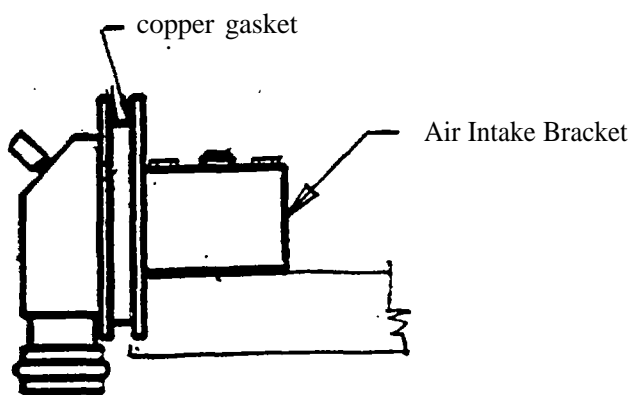

Figure 5. Flame Arrester **Gasket**
- (WEEKLY)" 9. ( ) A copper gasket is installed between the intake flame arrester and the air intake adapter as show in Figure 5.